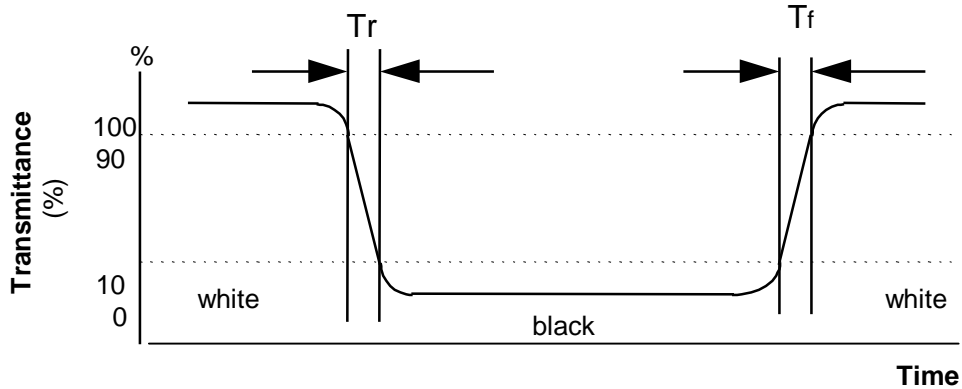

FIG. 4. The definition of Viewing Angle
4. Viewing angle is the angle at which the contrast ratio is greater than 10. The angles are determined for the horizontal or x axis and the vertical or y axis with respect to the z axis which is normal to the LCD surface. For more information see FIG 4.